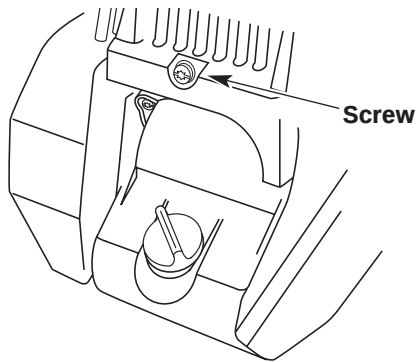

Fig. 52
3. Remove the screw behind the engine cover (Fig. 52).